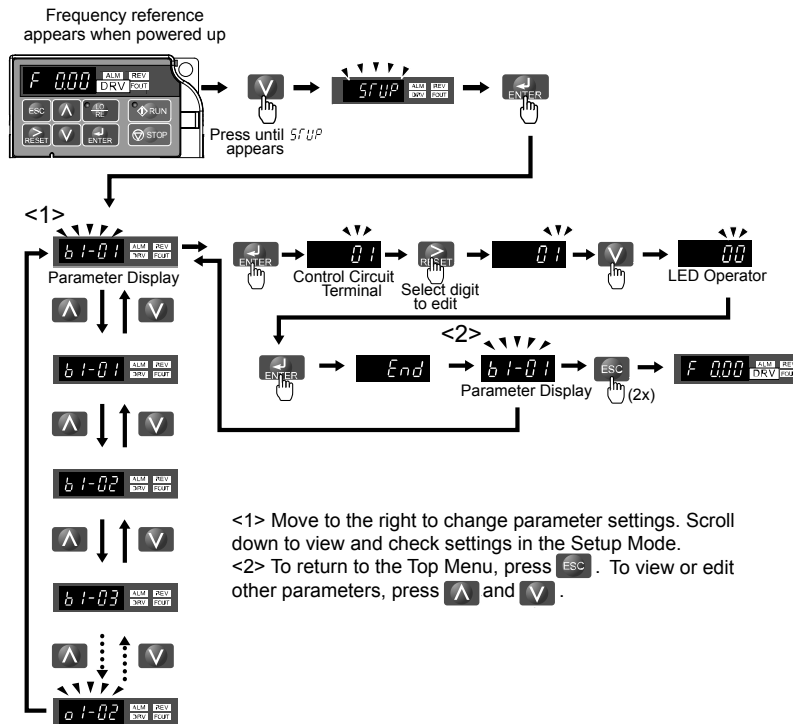

Figure 4.5 Setup Group Example
*Figure 4.5* illustrates the keys to press to enter the Setup Group.